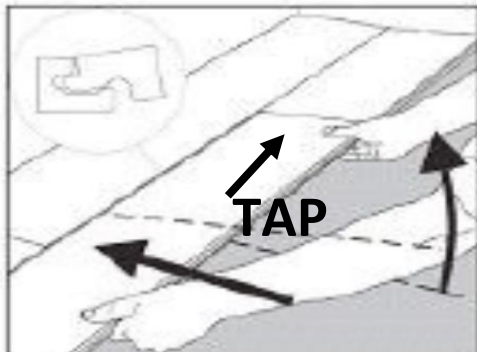

FIGURE 3
- Using a scrap piece of plank, align it to the left side of the second plank and lightly tap the scrap piece with a rubber mallet towards the first plank (figure 3). Do not tap the face or locking mechanism of the product with the rubber mallet without using a scrap piece.